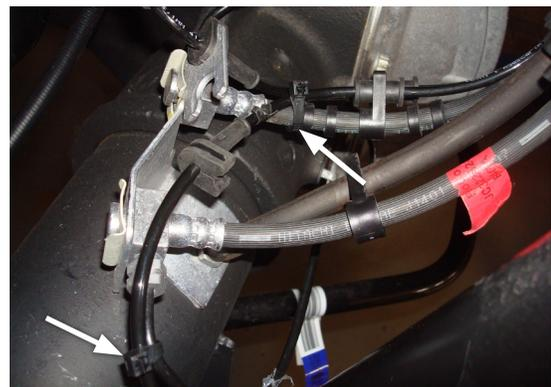

Fig. 21
4. Tie off the ABS line to the brake lines, as shown in Fig. 21.